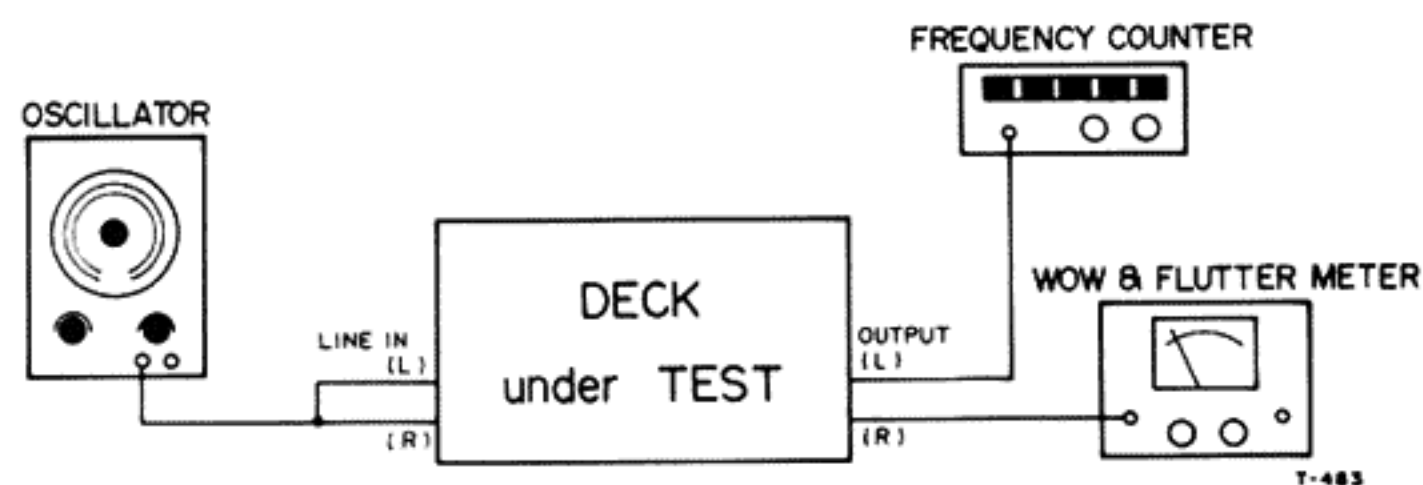

Fig. 5-2 Tape Speed/Wow & Flutter Measurement Setup
1. Connect test equipment to the deck, except the AF oscillator, as shown in Fig. 5-2.
1. Connect test equipment to the deck as shown in Fig. 5-2.